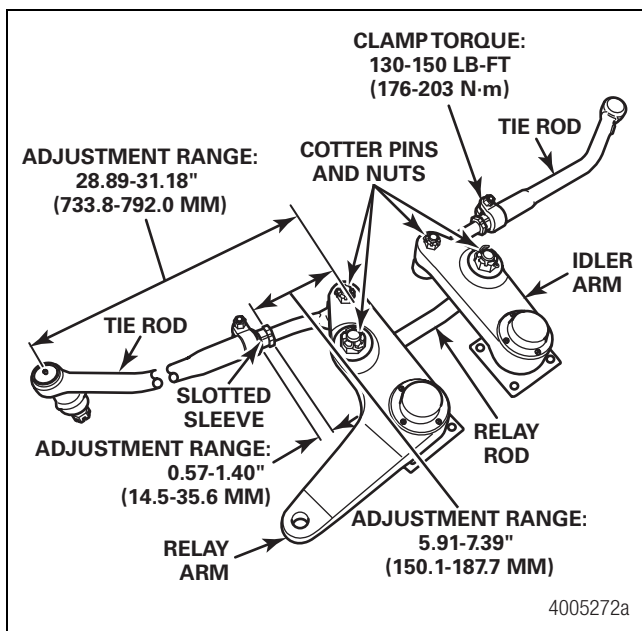

Figure 4.10
6. Verify that the tie rods are the correct length and are within 1/8-inch (3 mm) of each other. The tie rod ends and slotted adjusting sleeve must have the correct engagement with the tie rod. Adjust the tie rod length and tie rod end engagement as necessary. Figure 4.10.